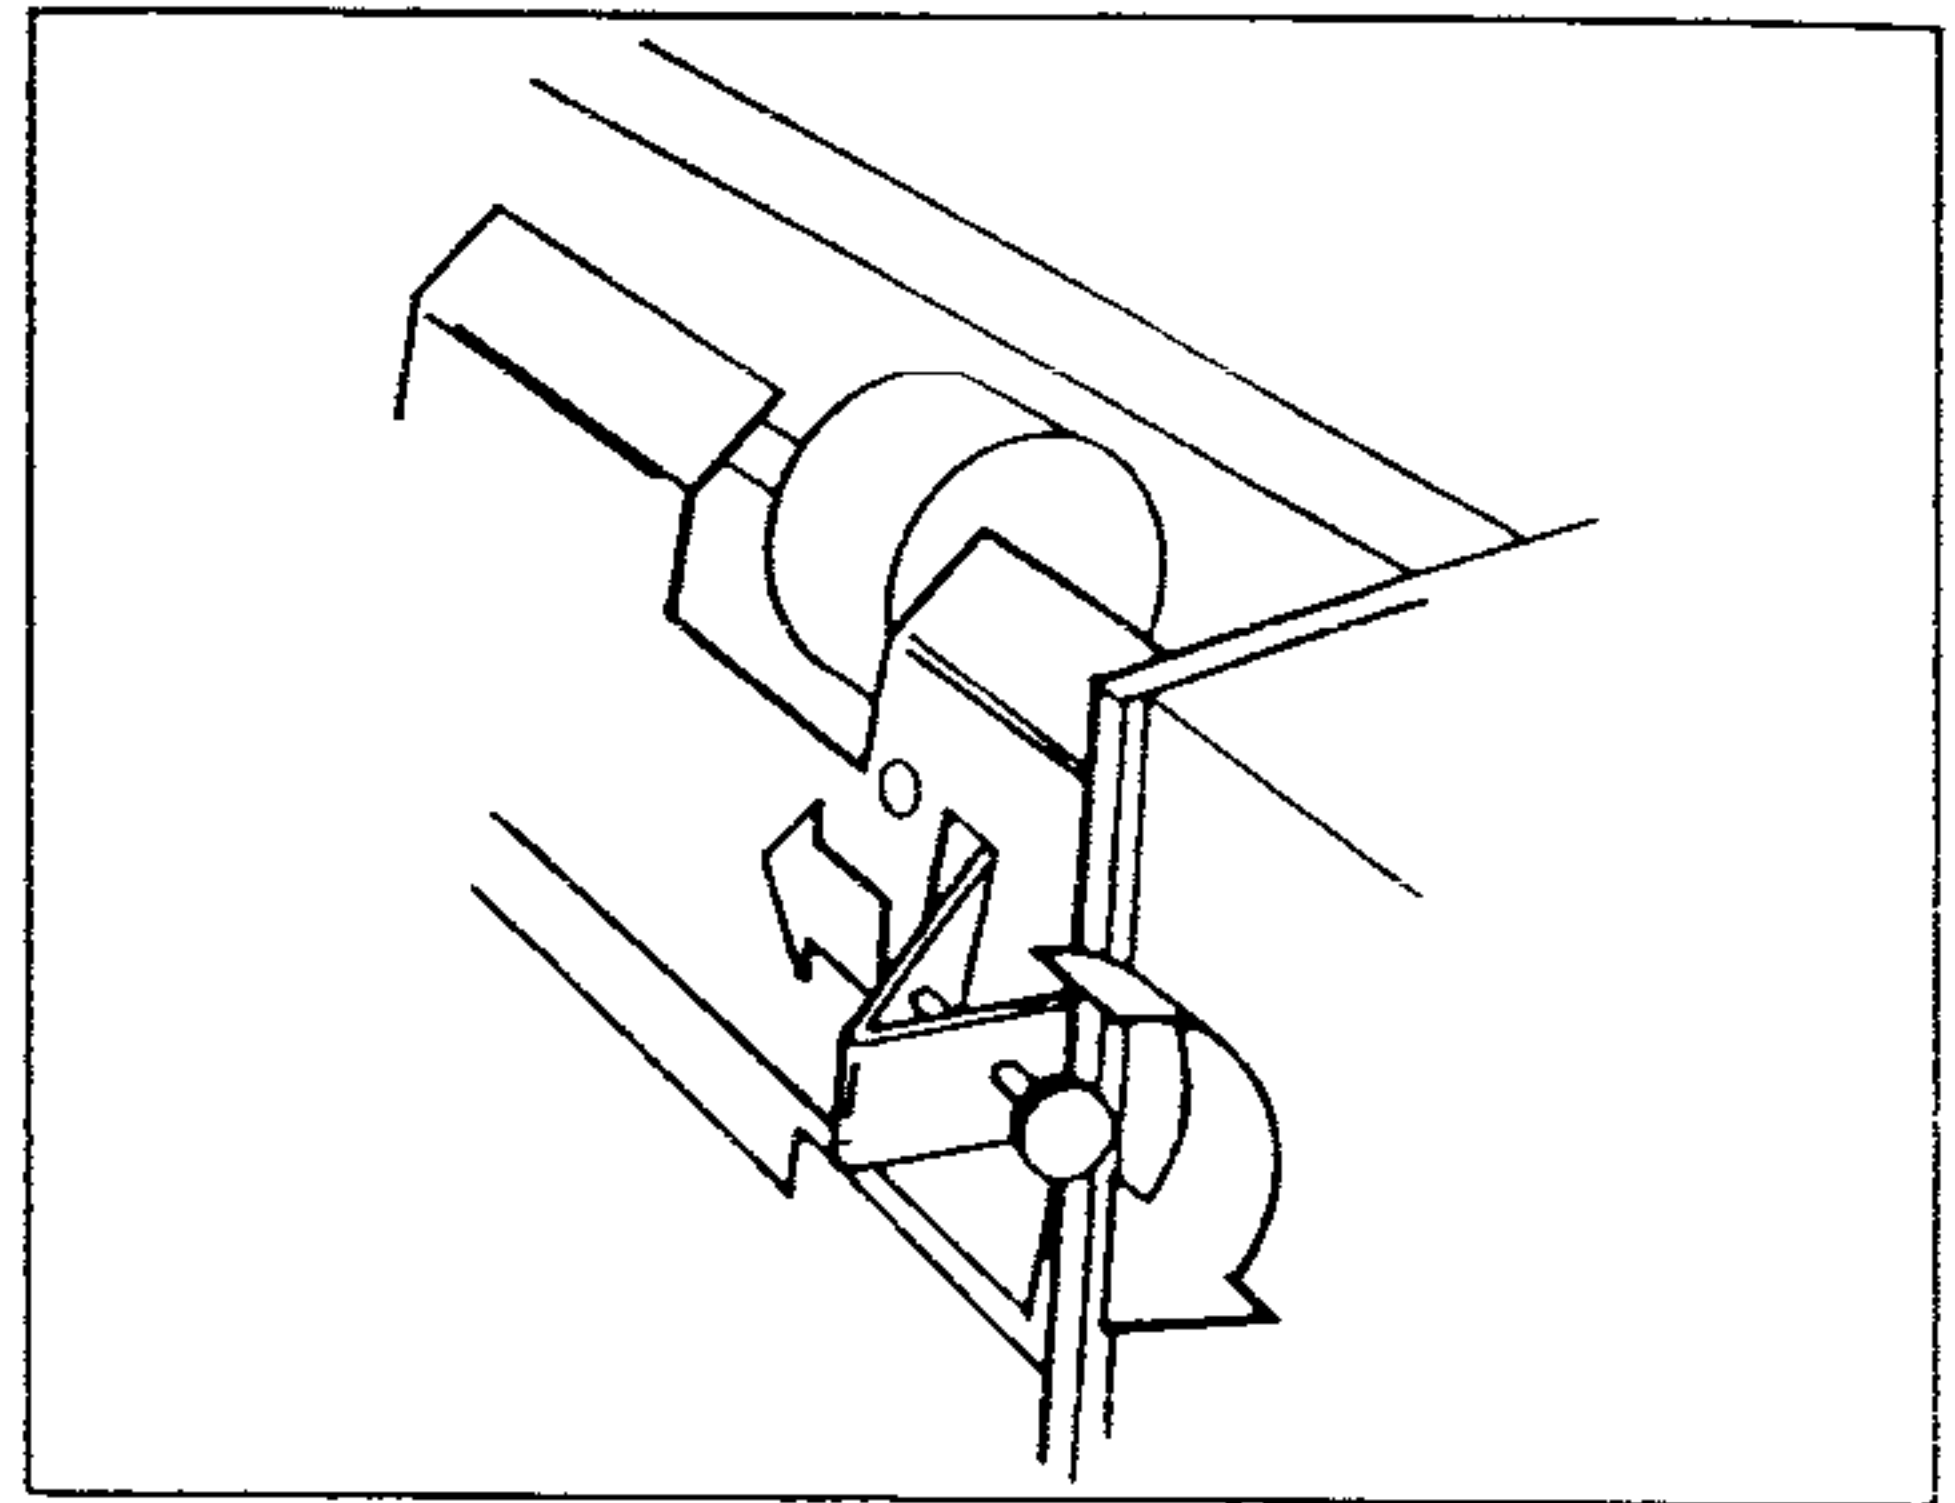

Figure 11
2. If step #1 is not sufficient, first turn the Paper Curl Thumbscrew on the side of the Feed Hopper clockwise (See Figure 11). This will move a small plate against the side of the paper stack to hold it away from the Front Plate slightly. The more you turn the thumbscrew, the further the plate will hold the paper away from the Front Plate